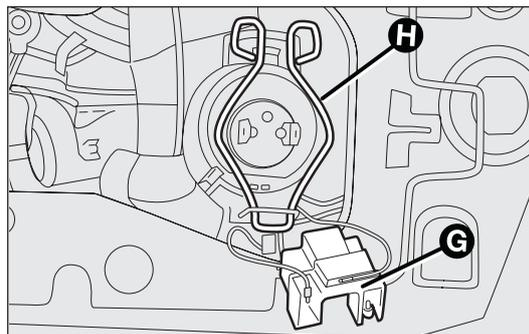

fig. 145
- remove the connector G-fig. 145;
- release the bulb-holder clip H-fig. 145;